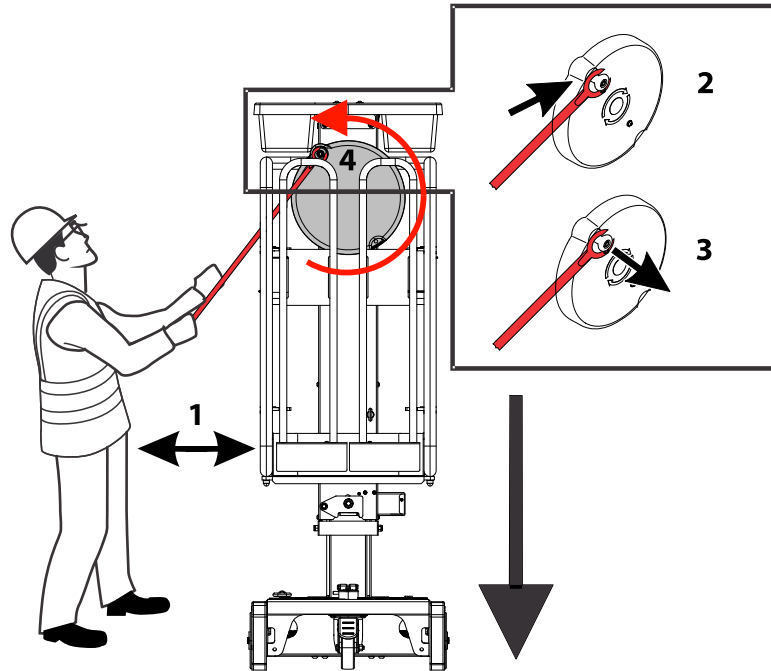

Figure 4-3. Emergency Lowering (Ecolift 50 and Ecolift 70)
2. Stand to side of machine (1), attach 'hook' end of emergency lowering tool to flywheel handle in platform (2), releasing handle (3) turn the flywheel counter-clockwise (4), to bring platform down. (See Figure 4-3.)